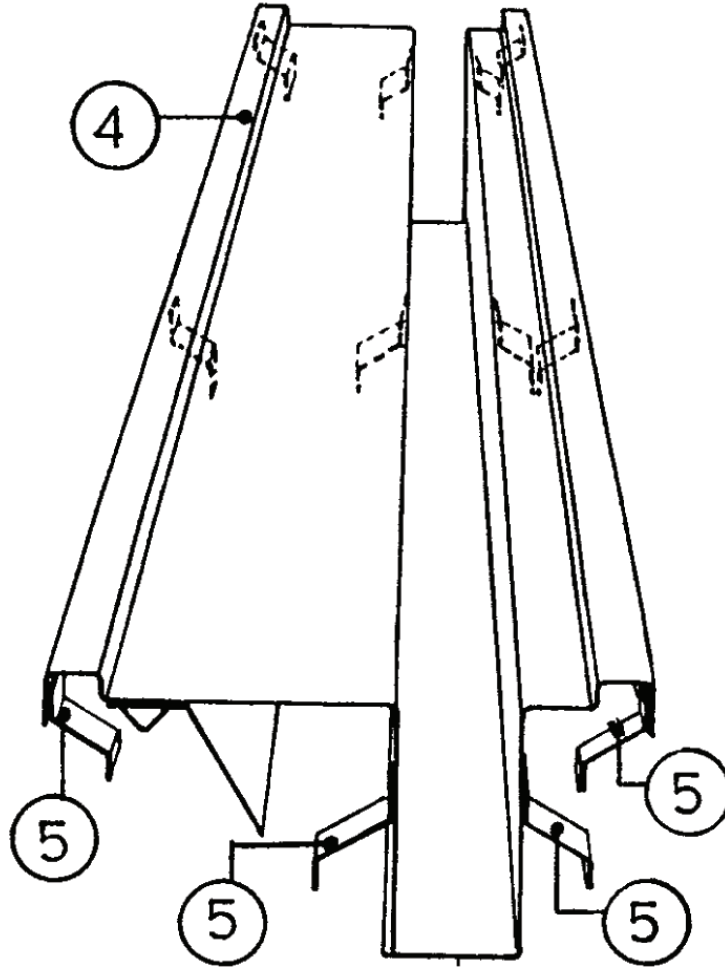

Figure 5a.
5.1 Any part of channel system that does not have anchor holes must have hooks tack welded in the position indicated in **(figure 5a)**. A total of 12 hooks per section are required. It is necessary to pay attention in placing the hooks so as not to interfere with the reinforcement.